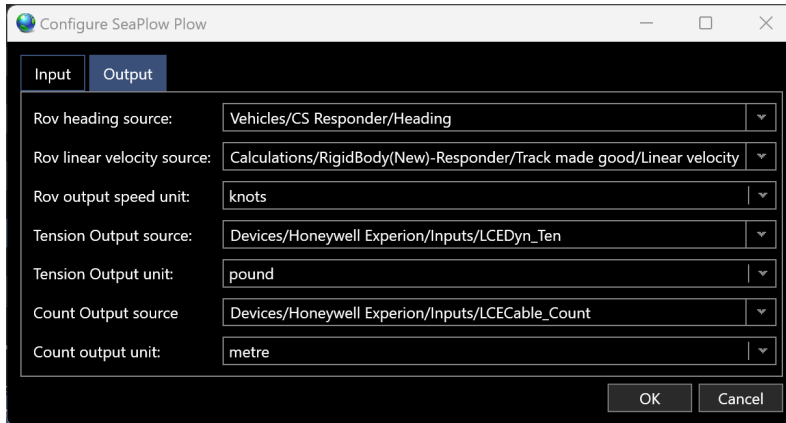

Figure 2 SeaPlow Plow Output Configuration
b. Figure 2 is an example of appropriate data source selections and units